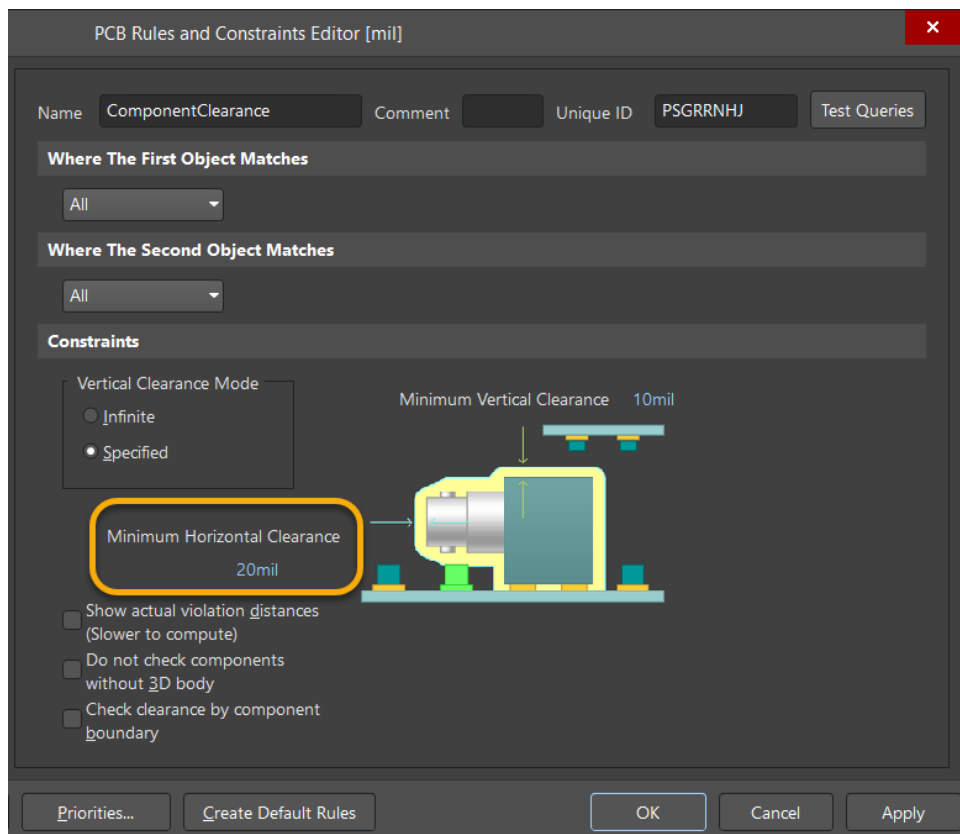

Figure 18. Editing the Component Clearance design rule
39. Notice the **Minimum Horizontal Clearance** is set at 20mil as shown in Figure 18.